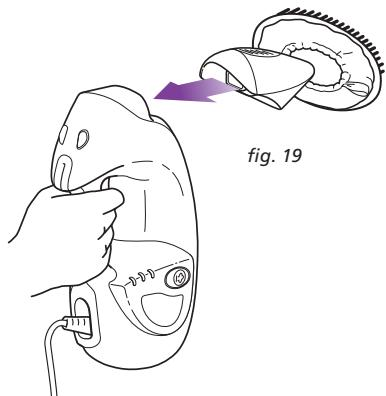

fig. 19
- 4 Attach the assembled Garment Steamer to the Handheld Steamer by snapping it into the main nozzle. (fig. 19)